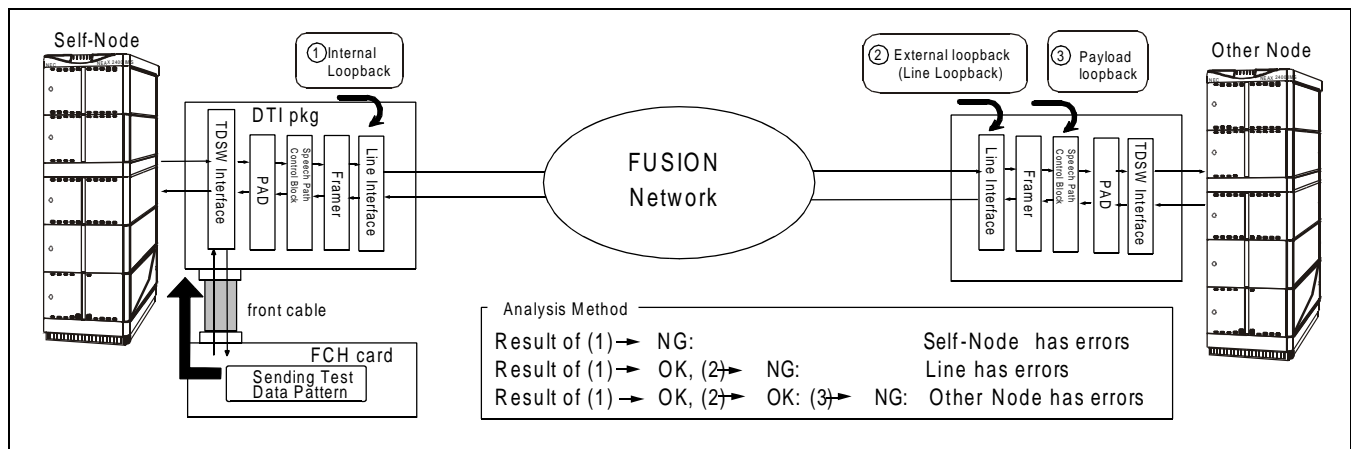

Figure 6-4 Loopback Points of DTI Card
All 24 B-channels sent from the TSW are looped back to the TSW at Interface on the card. At this time, the adjacent node detects AIS signals. (See ① in Figure 6-4.)
All 24 B-channels sent from the line are looped back to the line at Line Interface on the card. (See ② in Figure 6-4.)
All 24 B-channels sent from the line are looped back to the line at Speech Path Control Block on the card. (See ③ in Figure 6-4.)